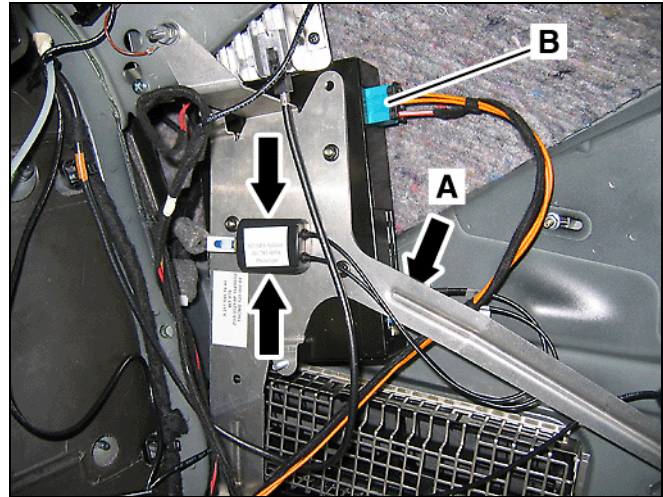

Figure 20
8. Peel off the protective backing from the adhesive side of the SDARS splitter and affix it to the face of the bracket for the SDARS control module (Arrows, Figure 20).
9. Connect the SDARS antenna splitter leads to the like-color jacks on the SDARS control module (A, Figure 20).
10. Connect the SDARS power supply/MOST connector (B, Figure 20) to the SDARS control module.